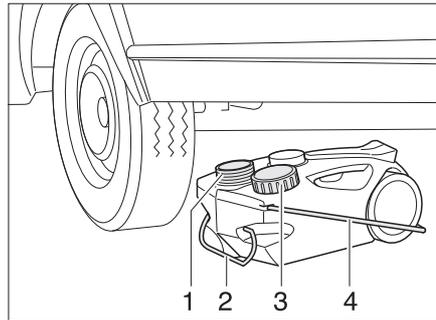

Fig. 154 Waste water tank, mobile
- Close the opening of the waste water tank (Fig. 154,1) with the lid (Fig. 154,3).
- Pull out the waste water tank at the handle (Fig. 154,2).
- Swing up the carrying handle (Fig. 154,4) and set the waste water tank up.